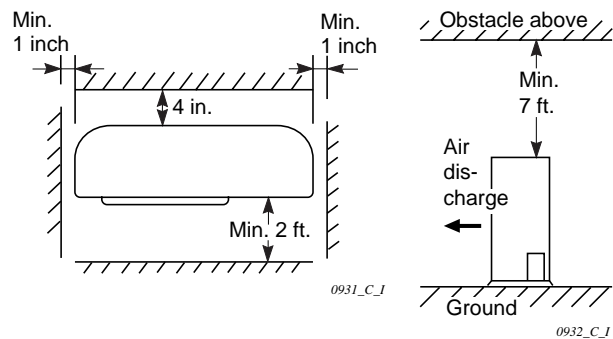

Fig. 3
- allow enough room around the unit for air intake/ exhaust and possible maintenance. (Fig. 3)